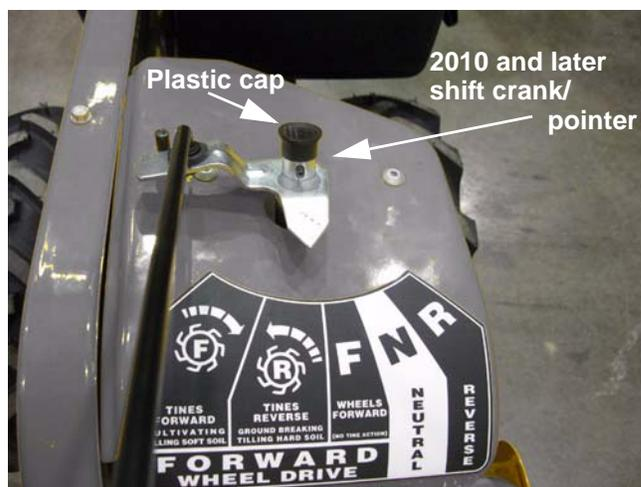

Figure 2.21
5. Current production 450-Series tillers include a plastic cap on top of the shift crank/pointer to help exclude rainwater from the chain case. See Figure 2.21.